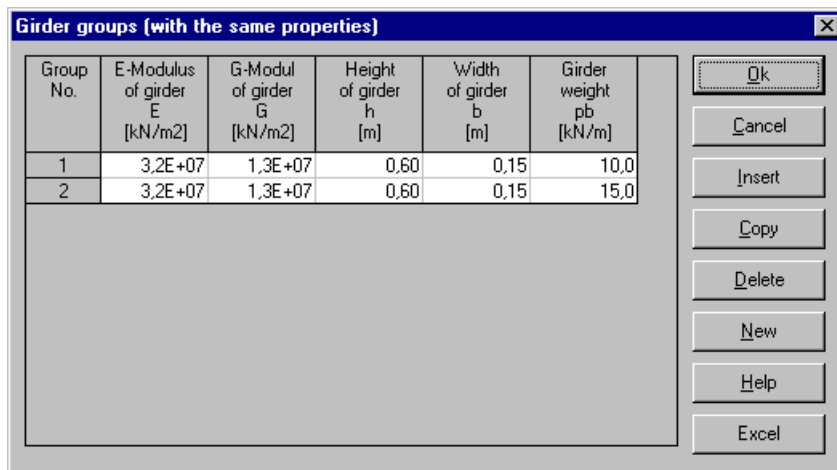

Figure 4-13 "Defining girder groups" list box
After clicking "OK" button in the "Cross section definition" option box the following list box in Figure 4-13 appears. In this list box
- Enter the material properties of the girder, cross section dimensions and the girder weight as indicated in Figure 4-13. This is done by entering the value in the corresponding cell and press "Enter" key. For simplicity, the line loads, which include the own weight of the girder, are entered in the cell "Girder weight". Here two groups of girders are defined, the first group for girders that have a line load of 10 [kN/m] while the second group for girders that have a line load of 15 [kN/m]